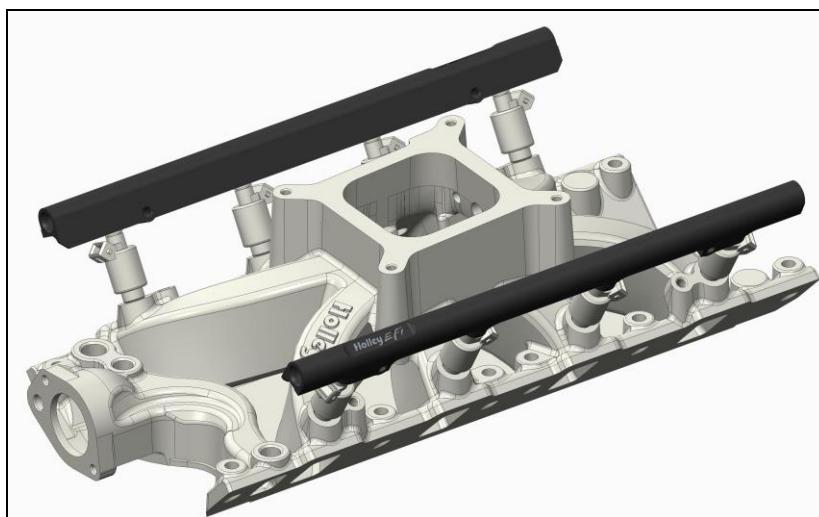

Figure 2
7. Assemble the fuel rails to each set of injectors (**Figure 2**).